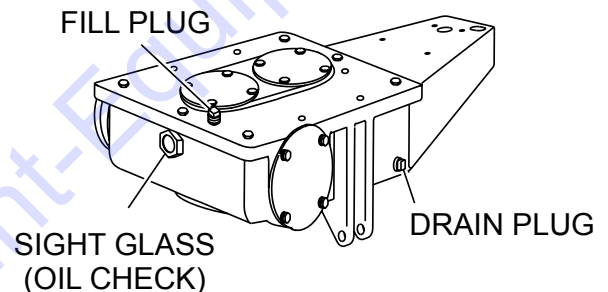

Figure 11. Gearbox Oil
1. Check the gearbox oil level in each gearbox by observing the sight glass at the rear of the gearbox. See Figure 11.